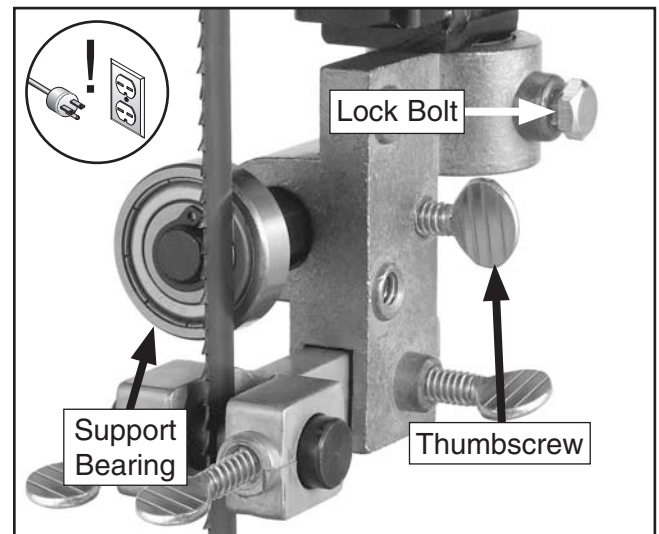

Figure 20. Support bearing controls.
3. Familiarize yourself with the support bearing controls shown in **Figure 20**.
5. Loosen the lock bolt shown in **Figure 20**.